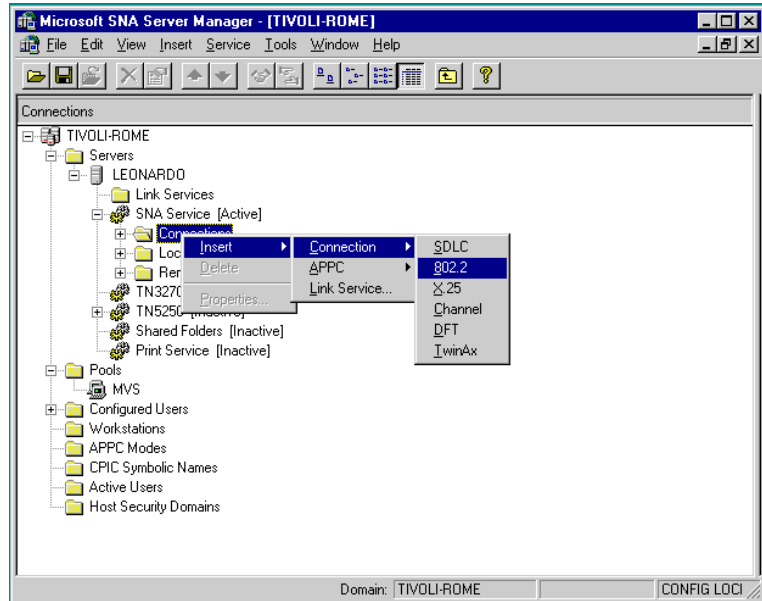

Figure 51. Selecting a downstream connection
- 1 From the Microsoft SNA Server Manager window, select **Connections ► Insert ► Connection ► 802.2**, as shown in Figure 51 on page 129.